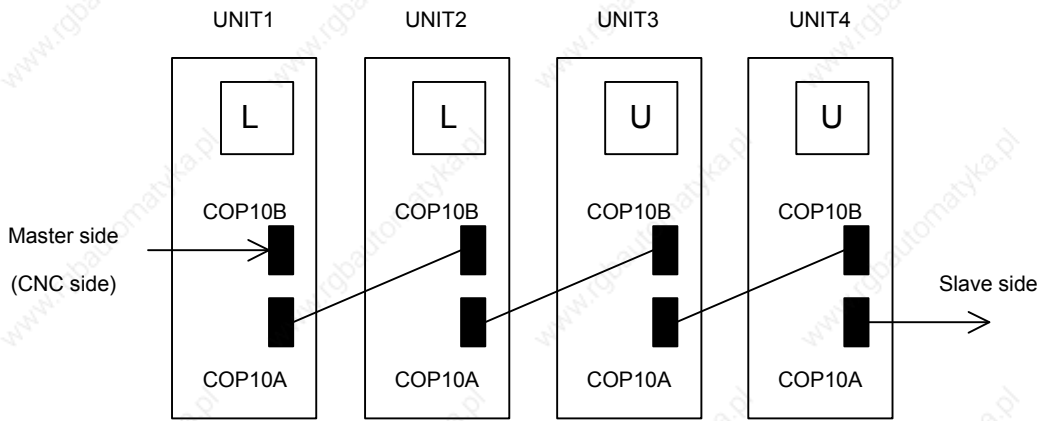

Fig. 3.2.13
- (2) Cause and troubleshooting
- (a) Replace the Servo Amplifier optical cable (COP10A) that is farthest to the CNC on which "L" is displayed (in Fig. 3.2.13, the cable between UNIT2 and UNIT3).
- (b) Replace the Servo Amplifier that is farthest to the CNC on which "L" is displayed (in Fig. 3.2.13, UNIT2).
- (c) Replace the COP10A-side Servo Amplifier that is farthest to the CNC on which "L" is displayed (in Fig. 3.2.13, UNIT3).